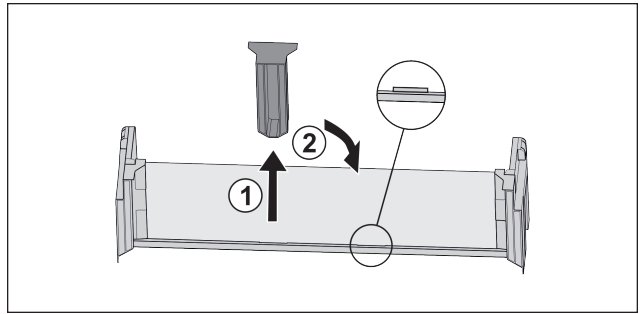

Fig. 121
- ▶ Pull off the middle holder Fig. 121 (1).
- ▶ Insert the middle holder in the second position Fig. 121 (2).